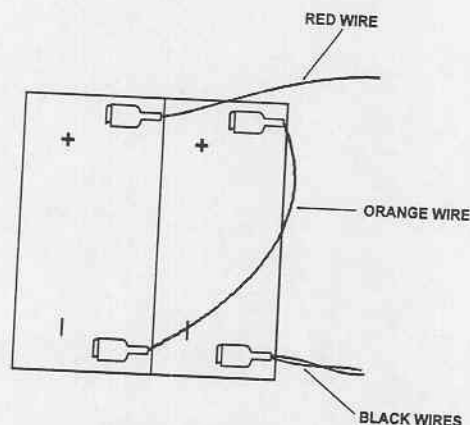

Figure 3-9. Battery pack.
- (11) Verify that terminal connecting wire colors and battery pack terminal markings match the illustration in figure 3-9.
- (1) Acquire either one or both batteries, if necessary.
- (2) Position and band the batteries together by following figure 3-9 and transfer the orange wire jumper to the replacement battery pack.
- (1) Place the battery pack into the lower section of the case with the battery pack terminals and colored wire terminals matching figure 3-9.
- (2) Reconnect the red and black wire female spade terminals.
- (3) Verify the correct battery pack orientation and terminal connections.
- (4) Reposition the battery pack onto its side with the terminals facing outward to the side of the lower section of the case.
- (5) Reinstall the battery pack bracket onto the two projecting screws.
- (6) Reinstall the two Keps nuts.
- (7) Reposition the control panel onto the lower section of the case.